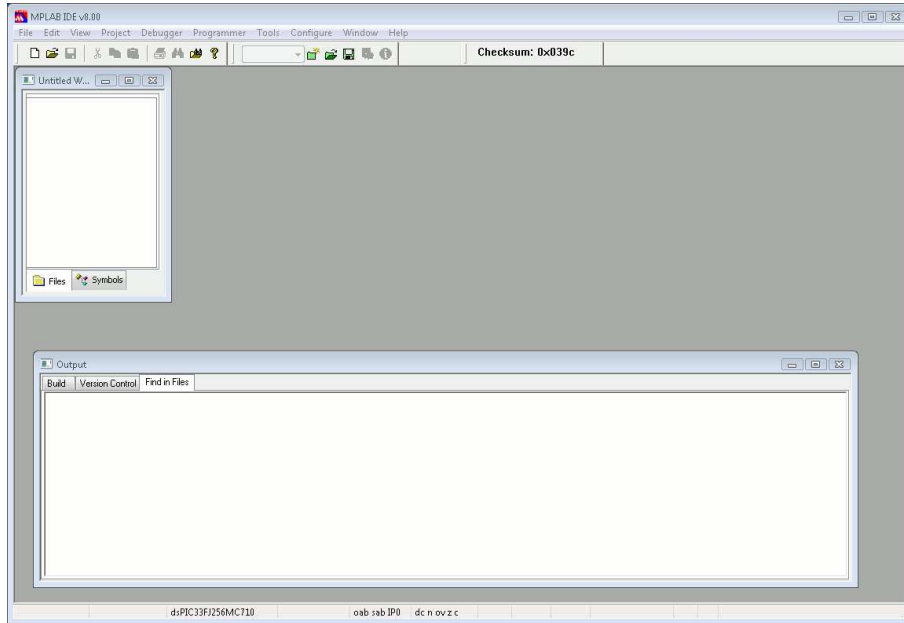

Figure 5.8: The Microchip MPLAB IDE.
8. You are now ready to import the produced COFF file inside Microchip MPLAB IDE. To do that, open MPLAB IDE as in Figure 5.8.